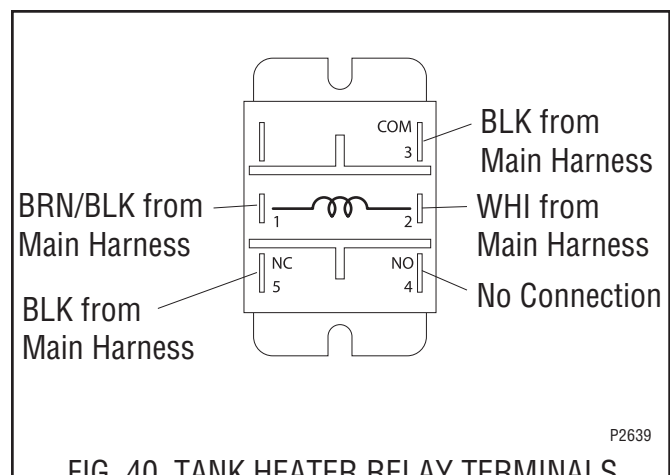

FIG. 40 TANK HEATER RELAY TERMINALS
7. Connect the tank heater relay to the main wiring harness (see Fig. 40).